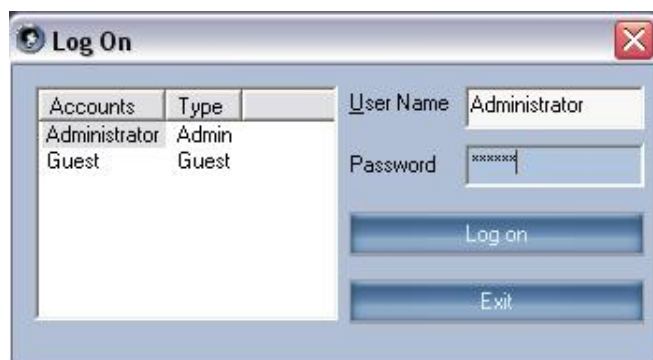

Figure 3-7 NEXIO Remote Log On Dialog Box
- 1 In the Accounts list, click **Administrator**. The Administrator user name appears in the User Name box (see Figure 3-7).